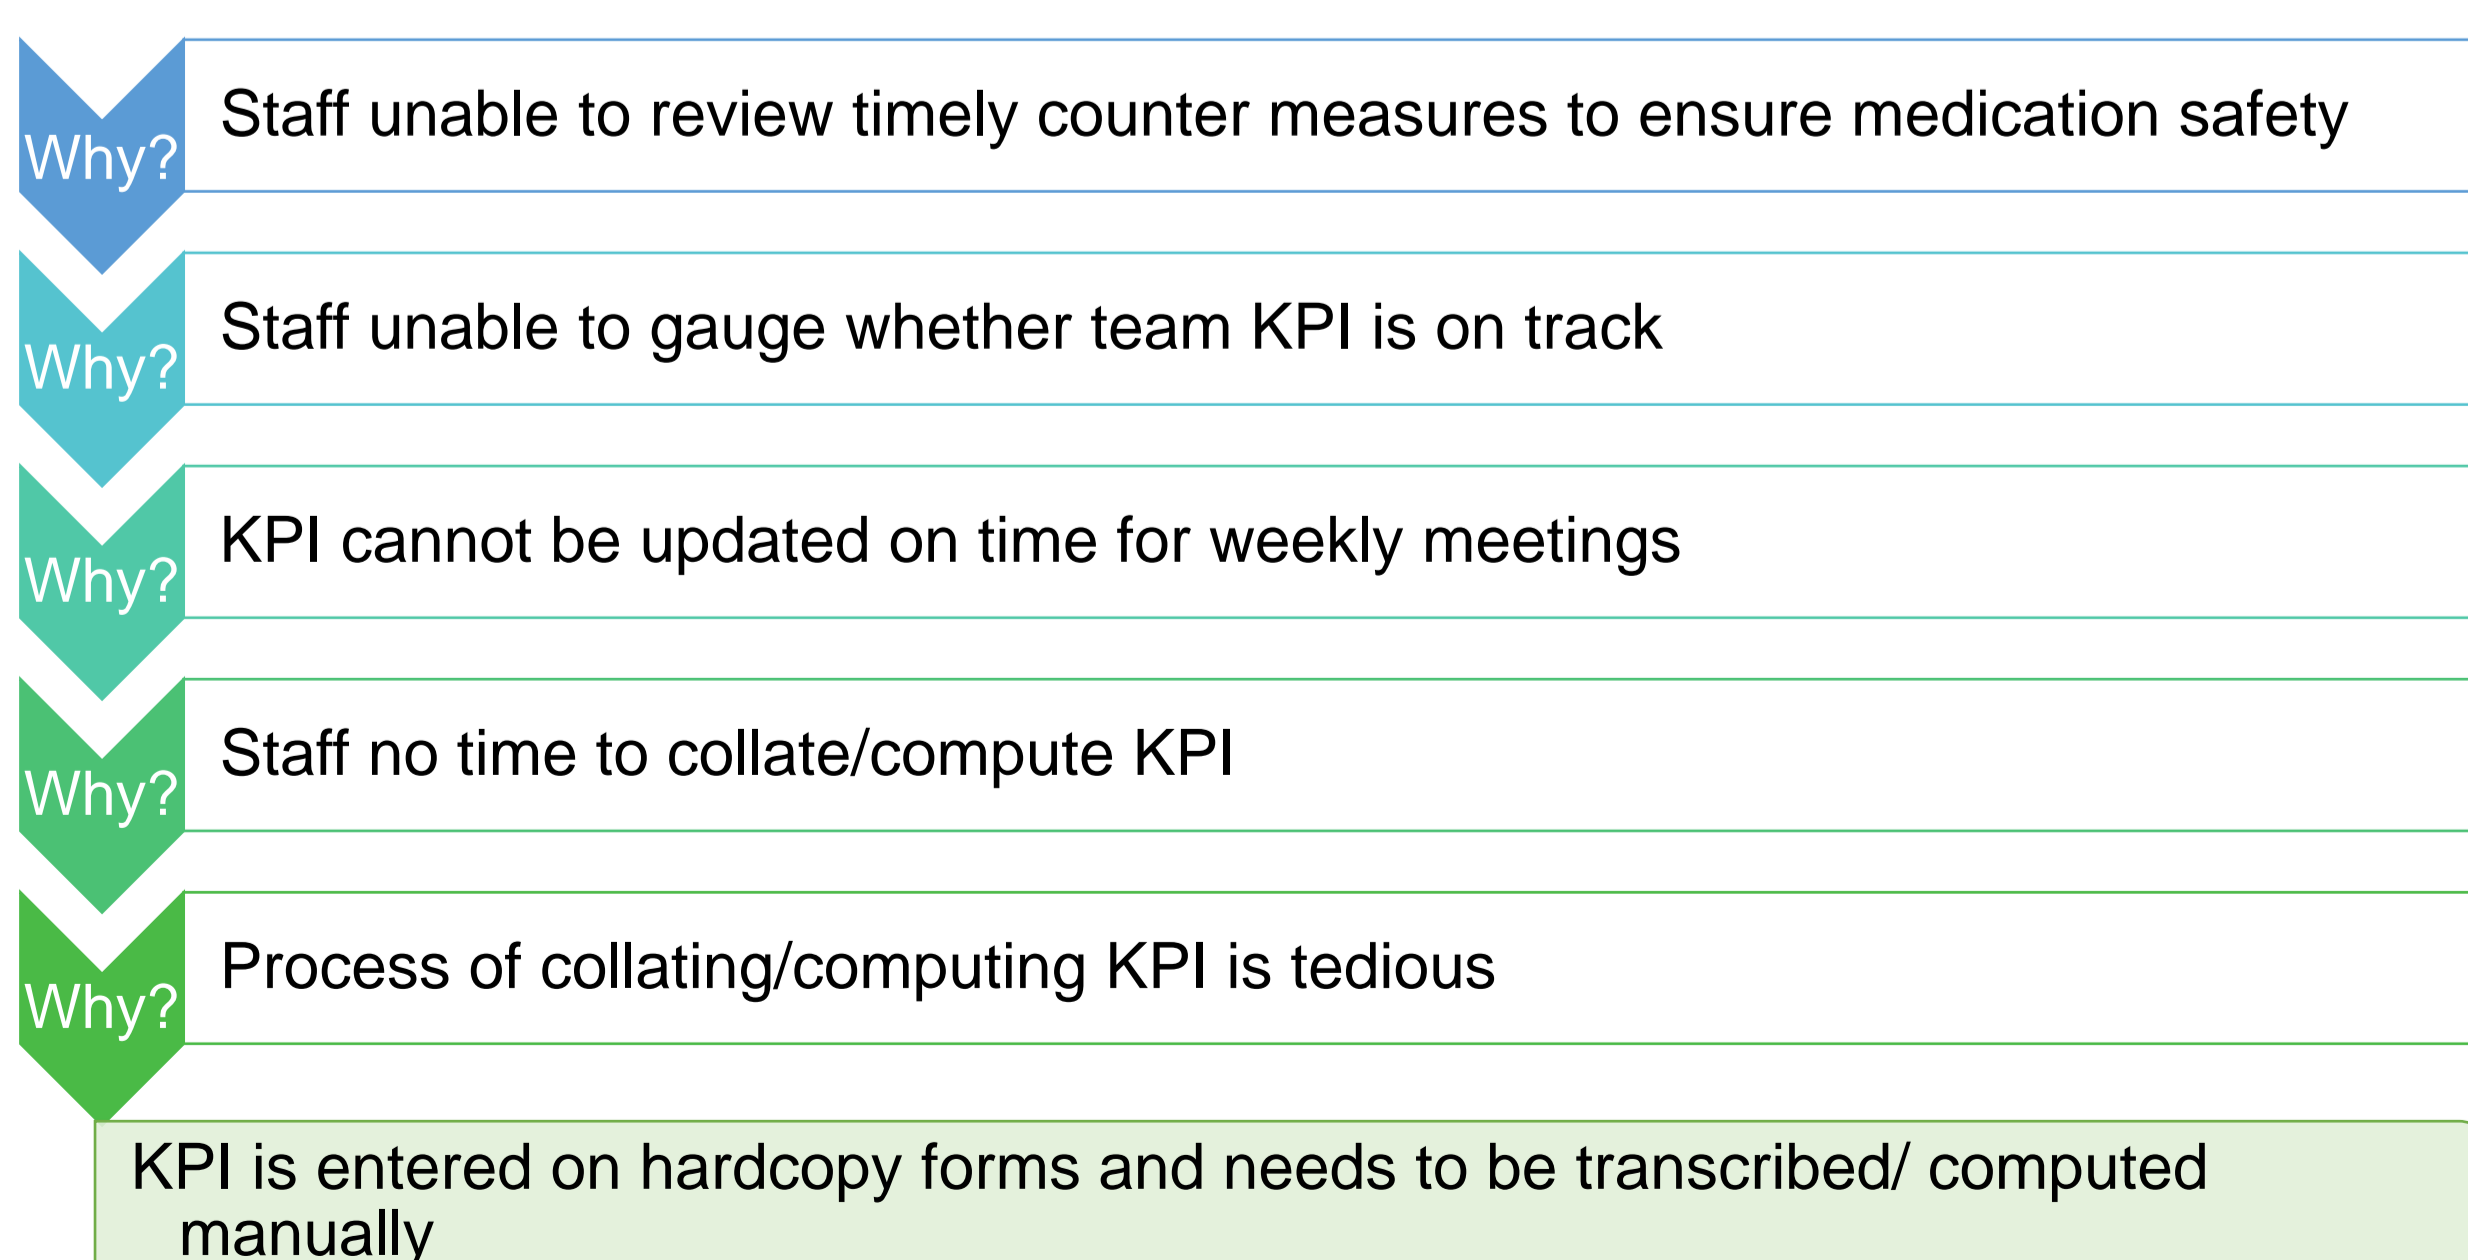

Figure 3: Chart showing 5 whys
- CC and DE are entered via Microsoft forms, accessed through scanning of printed QR code placed in the packing areas where errors are usually detected. (Fig. 3)